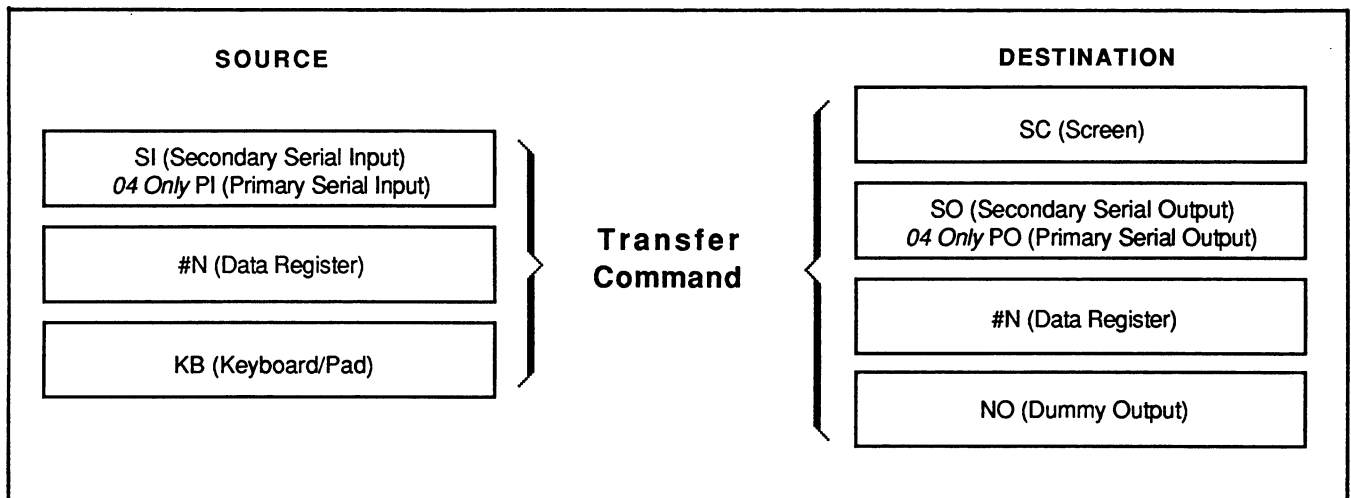

Figure 4-1. The Block Command Transfer (TR)
The block command Transfer (TR) can transfer data from a variety of sources to a variety of destinations. Figure 4-1 shows the capabilities of the transfer command.